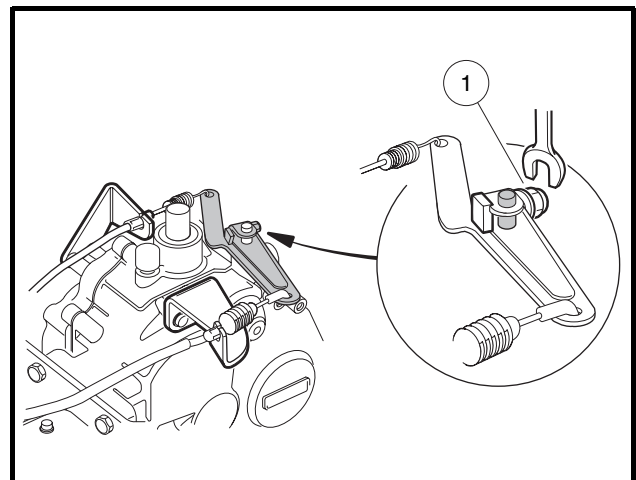

Figure 19-31 Governor Arm
18. Loosen, but do not remove, the governor arm retaining bolt (1) (**Figure 19-31, Page 19-12**). Remove the governor arm from the shaft. Do not disconnect cables.